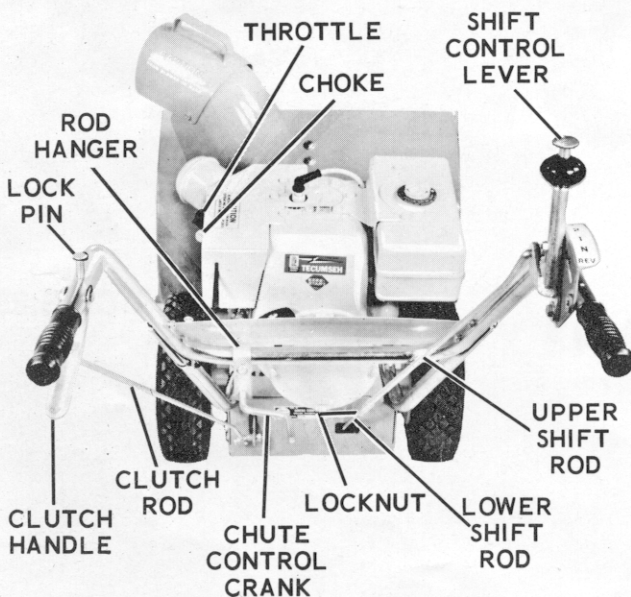

Figure 1
c. Remove the four bolts from the lower portion of the upper handle bar and slide the upper handle bar in place between the curved portions of the lower handle bars (figure 1).
Position the shift control (figure 1) on the inside of the handle bars on the right hand side so that the holes in the control line up with the holes in the handle bar. Fasten the control to the handle bar with two hex head cap screws and lockwashers (figure 1).
a. Pull up as far as possible on the lower shift rod which projects from the rear of the engine mounting frame (figure 1). Screw the threaded portion of the upper shift rod over the lower shift rod.
b. Slide the straight end of the clutch rod through the ball joint mounted on the clutch arm (figure 1) and place the bent end of the rod through the hole in the clutch operating handle (figure 1).
a. Slide the chute control rod through the hole in the rod hanger (figure 1) mounted on the left hand side of the handle bar.